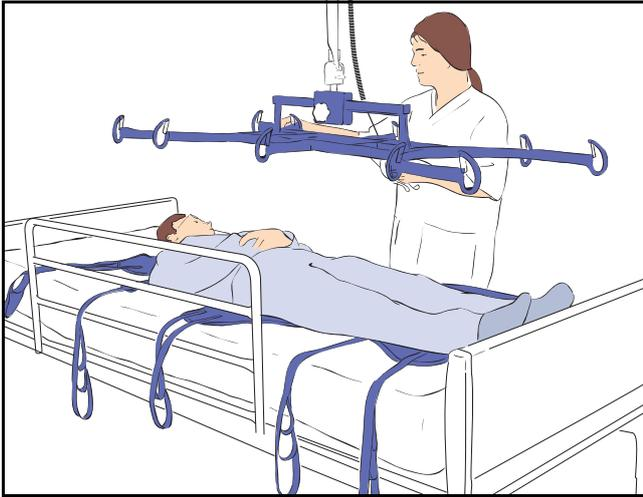

Fig. 12
- 3) With the stretcher frame as high up as possible, move the lift until the frame is directly over the patient (see Fig. 12).